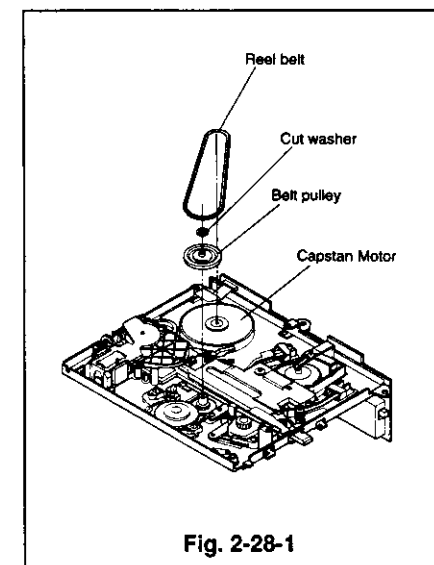

Fig. 2-28-1
- 2 Release the belt pulley as shown in Fig. 2-28-1 and raise the belt pulley upward to remove it.